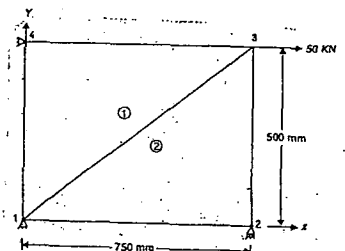

Fig. 14. a
- 14.a Find the nodal displacements and element stresses in the propped beam shown in Figure 14. a. Idealize the beam into two CST elements as shown in Figure. Assume plane stress condition. Take $\mu = 0.25$, $E = 2 \times 10^5 \text{ N/mm}^2$, Thickness = 15 mm. 16